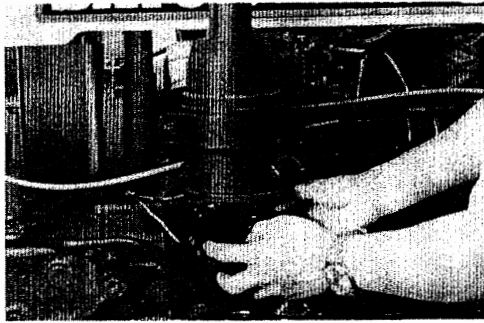

Fig. 24 Air Cleaner
- D. Air cleaner: If the tractor is operated in a dusty place, the air cleaner's oil bath should be cleaned and refilled with the engine oil up to a specific level. (Fig. 24)